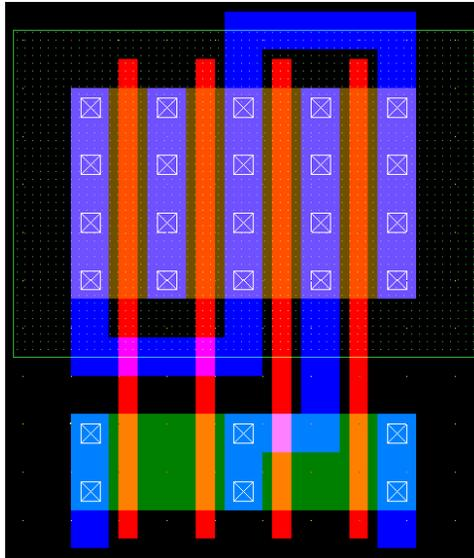

Figure 4
Align them using "Stretch, Move" button, if necessary. Run DRC. Then join the polysilicon of PUN and PDN. The shorted polysilicon fingers will be the inputs (A, B, C, D). Now remove metal & contact from the middle of A & B nMOS, since A & B nMOS of PDN are in series. Similarly, remove metal & contact from the middle of C & D nMOS, since they are in series too. Then form the output (Y) terminal using Metal1 by joining shorted drain of B & C nMOS (of PDN) with shorted drain of C & D pMOS (of PUN). The layout will look like Fig. 4 below.